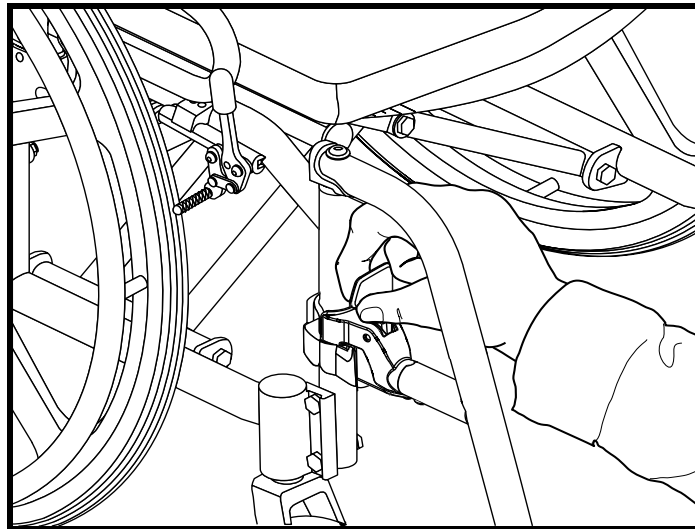

Figure 22. SFR Release
1. Push the release lever back. See figure 22.